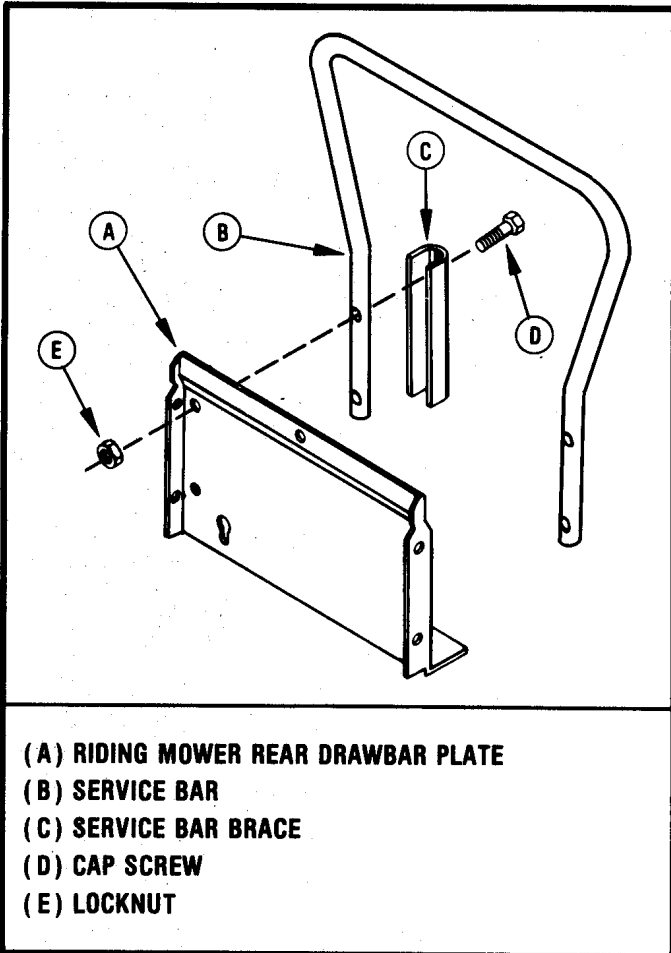

FIGURE 11-1
NO. 004001 AND UP, A BLADE TRAY ASSEMBLY (SUPPLIED WITH 30" GRASS BAGGER) MUST BE INSTALLED ON THE MOWER BLADE PRIOR TO INSTALLATION OF FLANGE ASSEMBLY. THE BLADE SHOULD BE REMOVED, THEN CHECKED FOR WEAR AND REPLACED, IF REQUIRED. BEFORE INSTALLING BLADE TRAY, USE TWO 3/8-16 CAP SCREWS (D) AND TWO 3/8-16 LOCKNUTS (E) TO ASSEMBLE BLADE TRAY AND BLADE. REFER TO FIGURE 11-1. ASSEMBLE AS FOLLOWS: